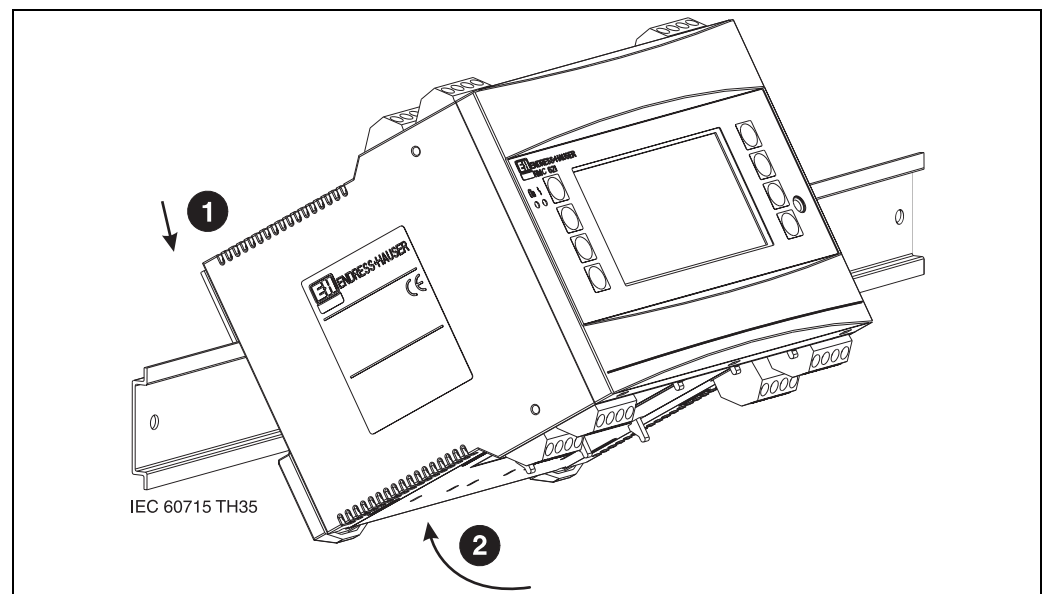

Fig. 4: Mounting device on top-hat rail
First remove the plug-in terminals from the device slots. Now snap the housing onto the top-hat rail by firstly hanging the device on the top-hat rail and then pressing it down gently until it engages (see Fig. 4, item 1 and 2).